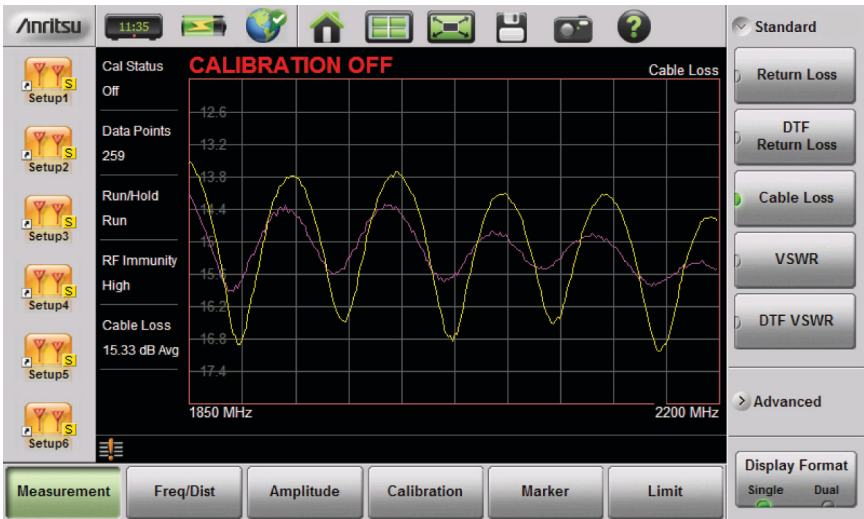

Figure 8-10. Recalled Measurement and Active Trace
- Figure 8-10 illustrates a recalled measurement and active trace.
The recalled measurement is the purple trace and is overlaid on the current active (yellow) trace. In Figure 8-10, the recalled measurement is used to compare the cable loss of two different RF cables. Recalled measurements are automatically saved to trace memory for use in trace match functions. To see the recalled measurement and the current measurement simultaneously, select **Trace & Memory** in the Trace Display submenu. Refer to “Trace” on page 3-44.